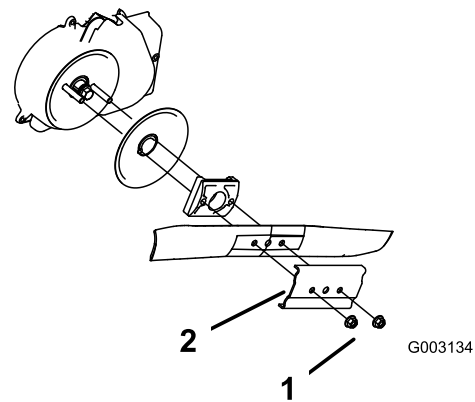

Figure 44
3. Remove the 2 blade nuts and the stiffener (Figure 44).
1. Blade nuts (2)
4. Remove the blade (Figure 44).
5. Install the new blade (Figure 44).